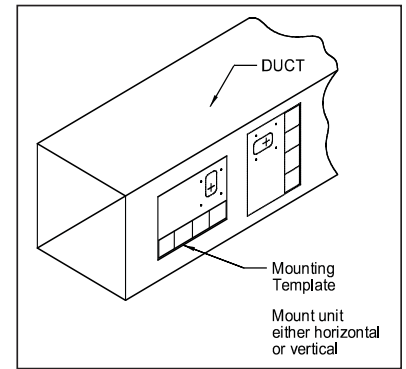

Figure 2
2. Apply supplied mounting template to air duct in either a vertical or horizontal position. (See Figure 2) Leave template mounted to duct for future reference.